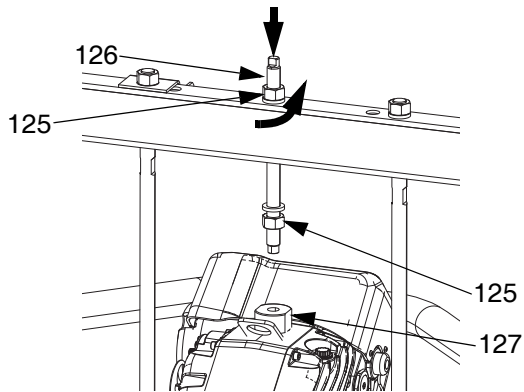

FIG. 27: 55 Gallon Platen
- a. *D200 3 in. and D200s 6.5 in. supply units:* Loosen nut (125) below crossbar. Use wrench to hold lift ring adapter (127) in place and loosen threaded rod (126) above crossbar with another wrench. See FIG. 27.